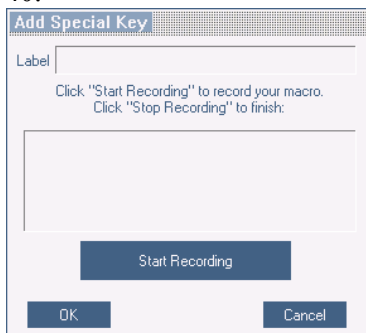

Figure 40 Add Special Key box
1. From the Special Key Manager box press **Record New**. The Add Special Key box appears see Figure 40.